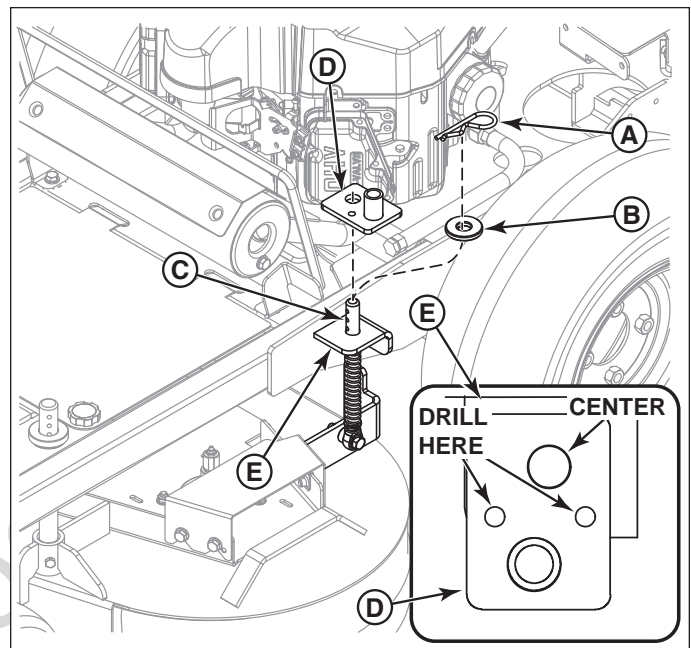
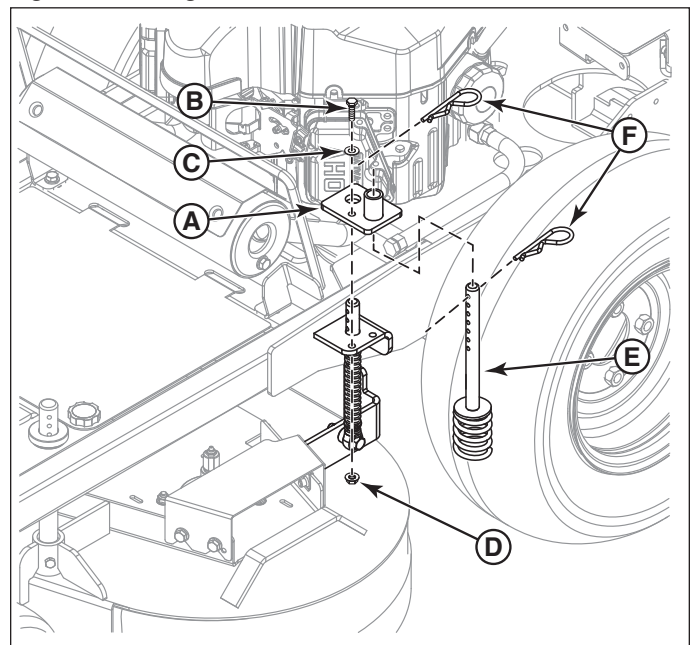

Figure 1. Drilling the Holes in the Deck Mount Plate
Figure 2. Installing the Counter Balance Kit
3. Remove the hair pin (A, Figure 1) and spacer (B) from the deck height shaft (C).
4. Position the deck stop plate (D) onto the deck mount plate (E). Center the 11/16" hole in the deck stop plate with the 11/16" hole in the deck mount plate. Align the front edge of the deck stop plate with the front edge of the deck mount plate so that the two are parallel. Clamp the deck stop plate in place.
6. Mount the deck stop plate (A, Figure 2) to the deck mount plate through the newly drilled holes using two (2) 5/16-18 X 1" bolts (B), 5/16" SAE washers (C), and 5/16-18 hex nylock flange nuts (D).
7. Press down on the back left edge of the mower deck and insert the spring and shaft assembly (E) up through the deck stop plate. The spring rests on the top of the mower deck.